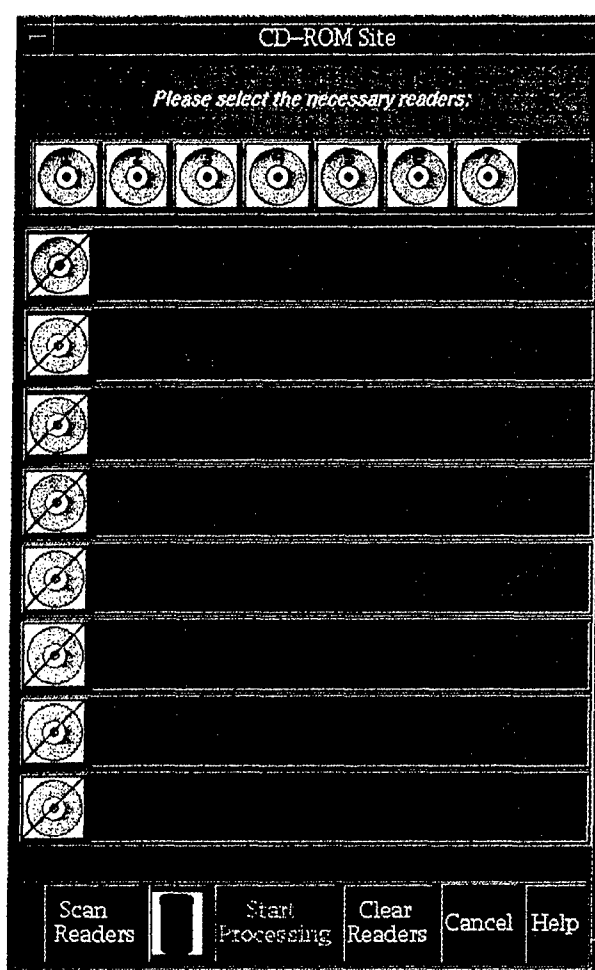

Fig. 80 — CDROM Site Window
- 2) MMC will pop up the **CD-ROM Site Window** (Fig. 80) listing all 7 CD slots, including 6 in the CD changer (CDROM1 through CDROM6) and the Alpha's internal CD drive (CDROM7).
- MMC will pop up the **CD-ROM Site Window** (Fig. 80). Currently, MMC will only allow a user to log in one CD at a time, so select the first CD reader containing a CD to be logged, click on Scan Readers, then Start Processing. MMC may prompt for a descriptive title for each CD (e.g., "Continental US at TPC scale"). Logging one CD takes about 1 minute.
- 6) After selecting the CAC CD in the **CD-ROM Site Window** (Fig. 80), click on Scan Readers, then Start Processing. MMC will display the CAC data, centered on the selected point (step 4, above).
- ♦ MMC will also pop-up the **CD-ROM Site Window** (Fig. 80).